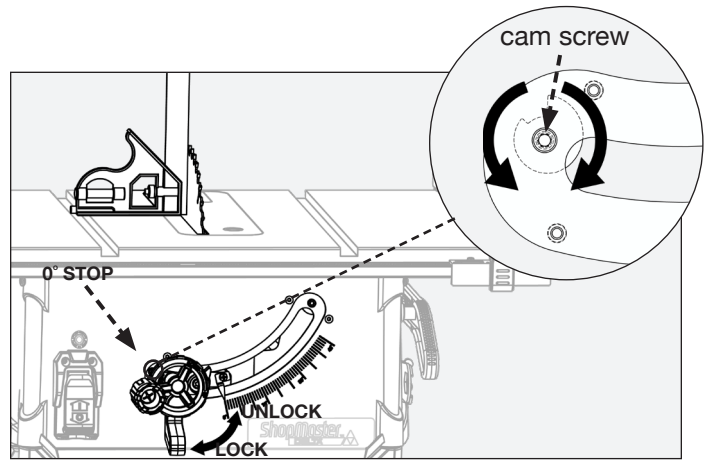

FIGURE 30
NOTE: For lock and unlock positions (Fig. 30).
Adjustment to the bevel stops may be required if the blade is not vertically square to the table when bevel adjustment is set at 0° or does not go to 45° when bevel is tilted to 45°. Corrective adjustments can be made by adjusting the bevel stop cams at each end of the bevel track as follows; If the blade is not vertically square to the table, you must adjust the 0° bevel stop cam (Fig. 30).
2. Loosen the cap screw that locks the 0° bevel stop cam in place (center of the cam). (As shown in Fig. 30)